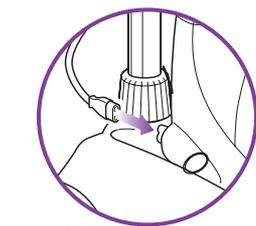

fig. 9
- 2 Hold the steamer at waist level in one hand or place on a table. (Fig. 9)
- 1 Plug in the steam hose power cord (white) into the fabric steamer receptacle. (Fig. 9)